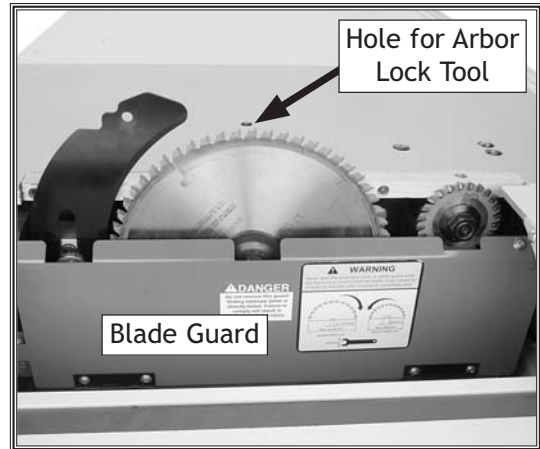

Figure 56. Internal blade guard exposed.
3. Move the sliding table all the way forward to expose the internal blade guard that covers the blades and riving knife, as shown in **Figure 56**.
5. Insert the arbor lock tool into the hole shown in **Figure 56**, then rotate the blade by hand until the arbor lock tool seats.